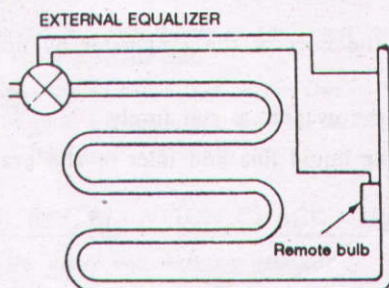
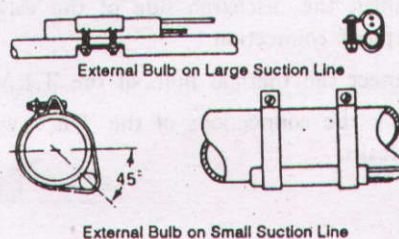

Figure 1 Remote bulb installation on vertical tubing.
Figure 2 Remote bulb installation on horizontal tubing.
- The location of the feeler bulb is extremely important and in some cases determine the success or failure of the refrigeration plant. For satisfactory expansion valve control between the bulb and the suction line is essential the bulb should be squarely fastened with two bulb straps to a clean straight section of the suction line. Installation of the bulb to a horizontal run of suction line is preferred. If a vertical installation cannot be avoided, the bulb should be mounted so that capillary tubing comes from the top (see Fig.1). To install, clean the suction line thoroughly before clamping the remote bulb in place. When a steel suction line is used, it is advisable to paint the line with aluminium paint to minimize future corrosion and to eliminate faulty remote bulb contact with the line. On lines under 7/8 in. (22.225mm) OD (outside diameter), the remote bulb may be installed on top of the line. On 7/8 in. OD and larger, the remote bulb should be installed at about 4 or 8 o'clock position (see Fig.2). If it is necessary to protect the remote bulb from the effects of the air stream after it is clamped to the line, use a material such as sponge rubber that will not absorb water when the evaporator temperatures are above 32°F (0°C). Below 32°F, cork or similar material sealed against moisture is suggested to prevent ice collecting at the remote bulb location.